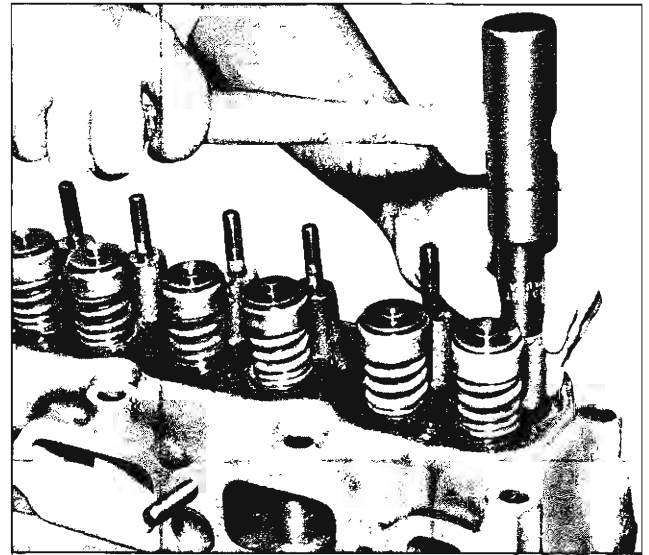

Fig. 16—Installing Rocker Arm Stud
3. Coat press-fit area of stud with hypoid axle lubricant. Install new stud using Tool J-6880. Tool should bottom on head (fig. 16).